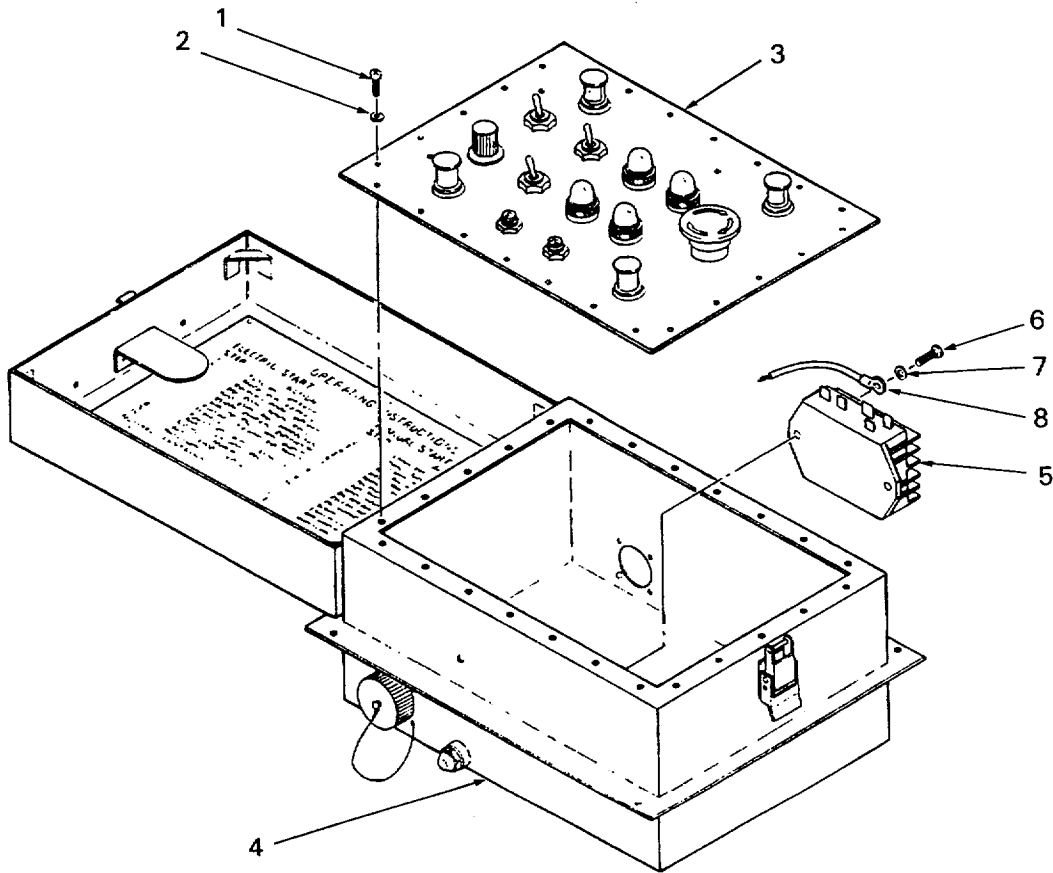

Figure 5-17. Voltage Regulator Replacement
5.7.8 Replace Voltage Regulator. (Refer to figure 5-17.)